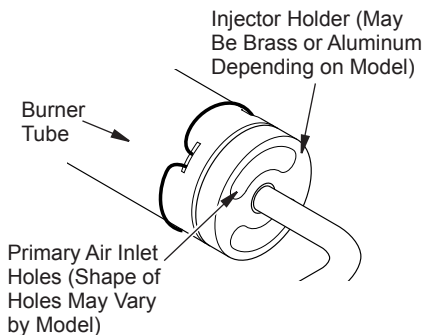

Figure 40 - Injector Holder On Outlet Burner Tube
3. Inspect burner, pilot and primary air inlet holes on injector holder for dust and dirt (see Figures 40 and 41).